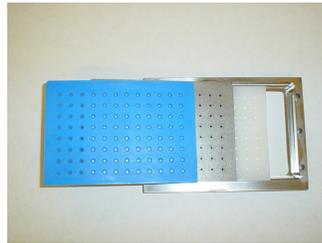

Figure 5-12 (From left to right): Blue silicone pad, compression plate, white silicone pad and silicone pad holder.
4. Once all of the syringes are replaced, you can re-install the silicone pad holder. Be sure to place the white silicone pad on the bottom, the compression plate in the middle, and the blue silicone pad on top. The beveled edge of the pad holder should be in the front position of the syringe head. See Figure 5-12 for silicone pad installation order.